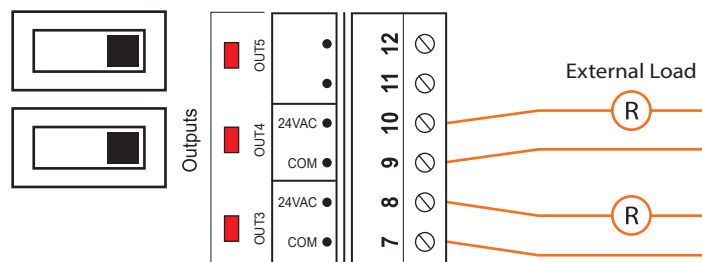

Figure 19 - Connection of Active Outputs 3 and 4
1) Active outputs. The C1000 is actively powering the load (see Figure 19).